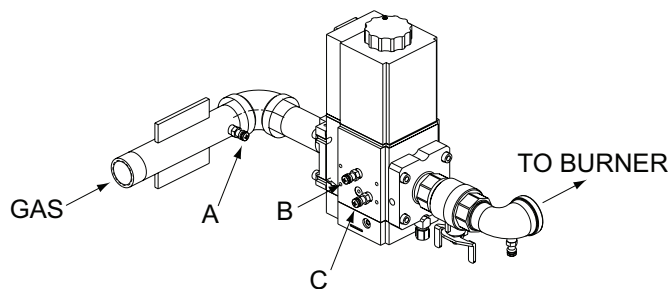

Figure 53. Gas Pressure Measurement Locations
2. Attach (1) 12" scale manometer to an upstream bleedle valve on the gas supply pipe to the heater (Measure point "A" in **Figure 53**).
- Attach (1) 24" scale manometer to the manifold pressure tap located near the shutoff valve downstream of the firing valve (Measure point "C" in **Figure 53**).
- Attach (1) 12" scale manometer on the fan suction pressure hose.